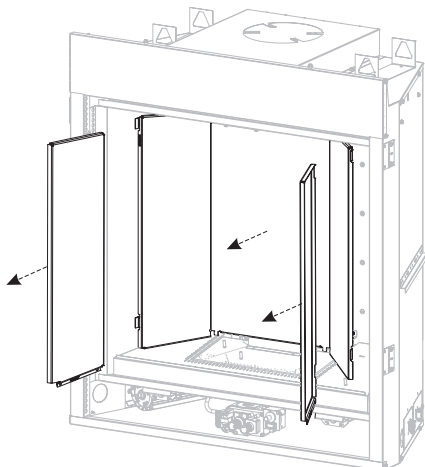

Figure 9
6. Remove liners as shown in Figure 9. (If installed)